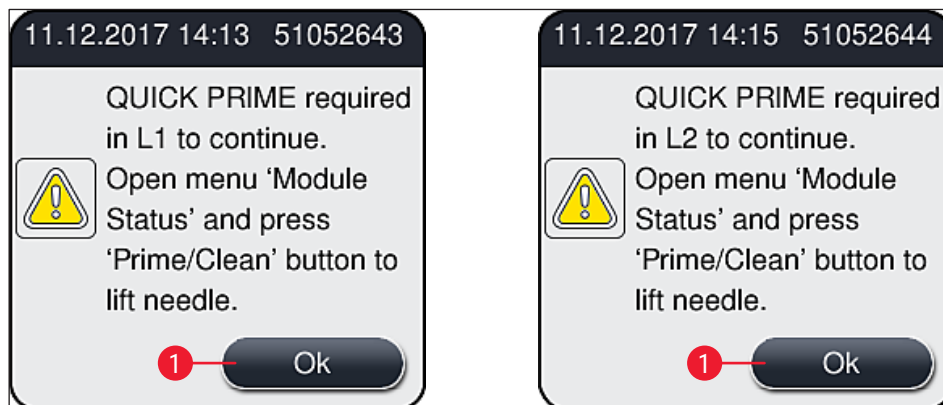

Fig. 51
- ① After completing the initialization phase, the main menu (→ Fig. 19) appears on the screen, and the user is informed (→ Fig. 51) that a **Quick Prime** is required for the coverslip line in use. Acknowledge the messages by pressing **Ok** (→ Fig. 51-1) and follow the instructions that follow (→ P. 118 – 7.3 Preparing the hose system for priming and cleaning).